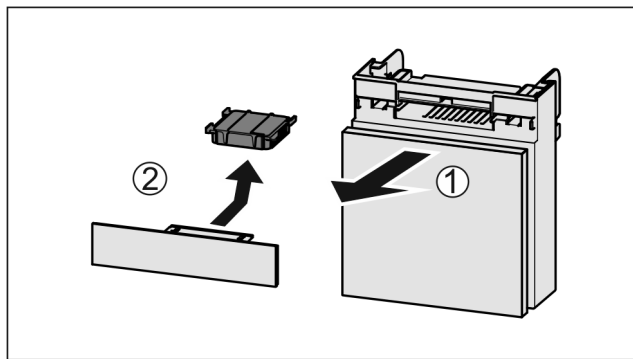

Fig. 254
- Pull out the compartment Fig. 254 (1).
- Remove the carbon filter Fig. 254 (2).